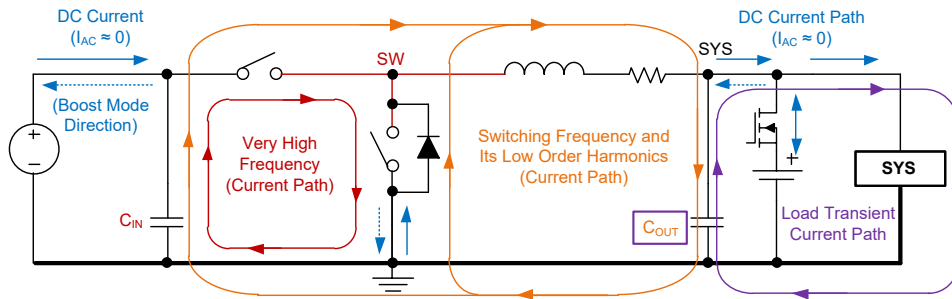

Figure 20. The Paths and Loops Carrying High Frequency, DC Currents and Very High Frequency (for Layout Design Consideration)
The switching node (SW) creates very high frequency noises, which are several times higher than  $f_{sw}$  (1.5MHz) due to sharp rise and fall of the voltage and current in the switches. To reduce the ringing issues and noise generation, it is important to design a proper layout for minimizing the current path impedance and loop area. A graphical guideline for the current loops and their frequency content is provided in Figure 20. The following considerations can help to make a better layout.